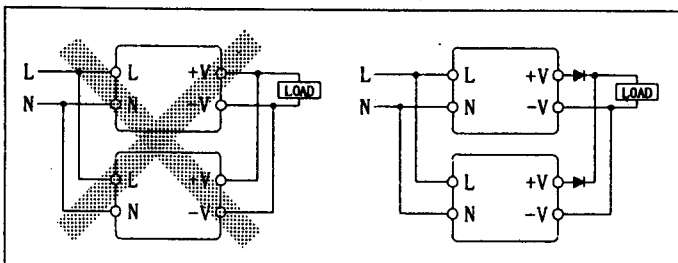

Fig.1
- (1) When connecting two through five units in parallel, connect a diode to the output of each unit. Outputs of PS5R units can not be connected directly. (Fig.1)
- (2) Adjust the output of each unit to the same voltage within a tolerance of 50 mV.
- (3) Turn on inputs to all units at the same time.
- (4) Use the same wires for connecting outputs of all units.
- (5) When connecting diodes to the output, raise the output voltage to compensate for the voltage drop due to the diode forward voltage (VF).
- (6) Recommended diodes for outputs are listed below.